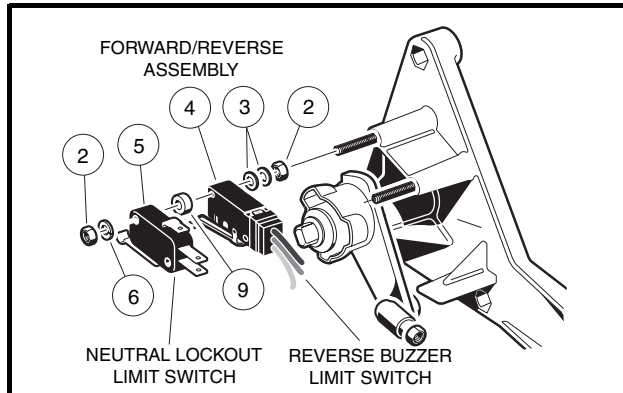

Figure 12-18 Neutral Lockout and Reverse Buzzer Limit Switches
2. Disconnect the wires from the neutral lockout limit switch (5) located on the back of the Forward/Reverse shifter assembly (**Figure 12-18, Page 12-17**).
3. Remove two nuts (2) and washers (6) from the neutral lockout limit switch (5) and slide the neutral lockout limit switch off of the screws.
1. Install the neutral lockout limit switch (5) with two washers (6) and two nuts (2) (**Figure 12-18, Page 12-17**). Tighten to 5 in-lb (0.6 N·m). Place the Forward/Reverse handle in REVERSE to make sure that both switches actuate. **See following CAUTION.**
2. Connect the black wire to common (COM) terminal, the green wire to the normally open (NO) terminal and the white wire to the normally closed (NC) terminal of the neutral lockout limit switch (**Figure 12-18, Page 12-17**).
2. Disconnect the wires from the reverse buzzer limit switch (4) located on the back of the Forward/Reverse assembly (**Figure 12-18, Page 12-17**).
3. Remove the nuts (2) and washers (6) from the neutral lockout limit switch (5) and slide the neutral lockout limit switch off of the screws. Do not disconnect the wires.
4. Remove the spacers (9) from the reverse buzzer limit switch (4) and slide the reverse buzzer limit switch off the screws.
1. Install the reverse buzzer limit switch (4), and then install two spacers (9) against the limit switch (**Figure 12-18, Page 12-17**).
2. Install the neutral lockout limit switch (5) with two washers (6) and two nuts (2). Tighten to 5 in-lb (0.6 N·m). **See following CAUTION.**
4. Connect the orange wire to the common (COM) terminal and the red/white wire to the normally open (NO) terminal of the reverse buzzer limit switch (4) (**Figure 12-18, Page 12-17**).